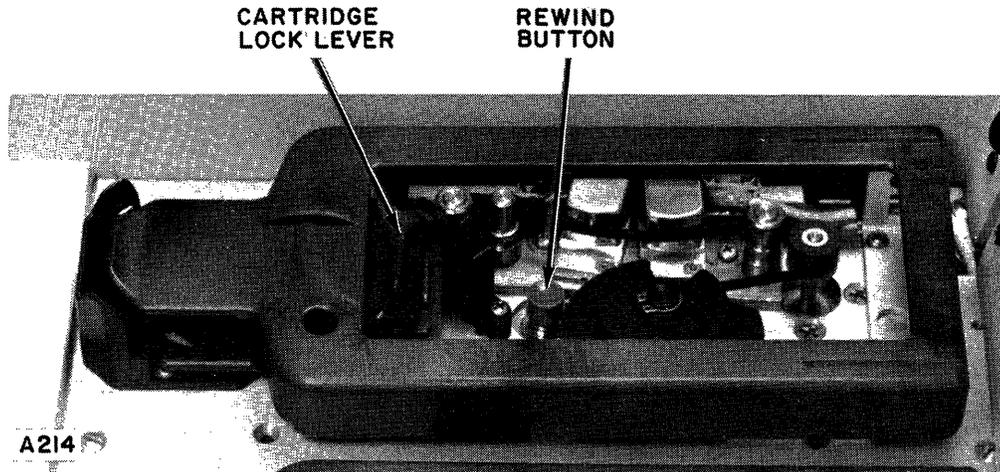

Figure 2-4. Controls on the Tape Drive
- d. On each tape drive, there is a manual rewind switch located between the supply and take-up reels. There is also a cartridge lock lever, which is used to lock the tape cartridge in place. The location of these controls is shown in figure 2-4.